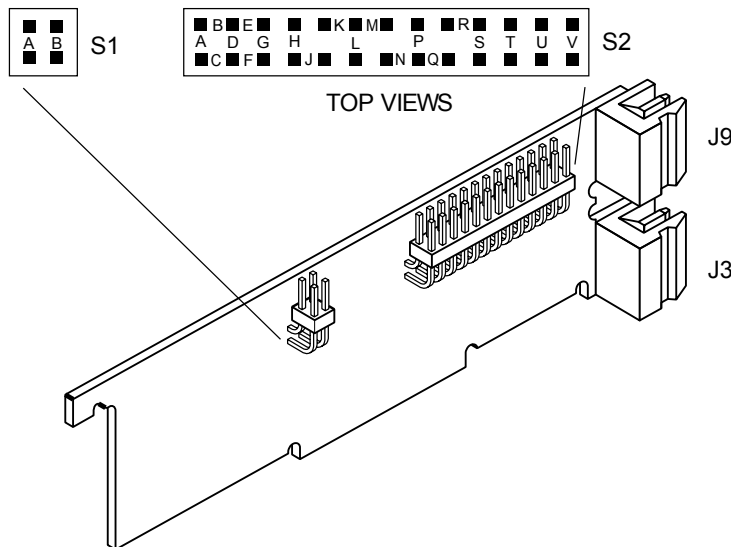
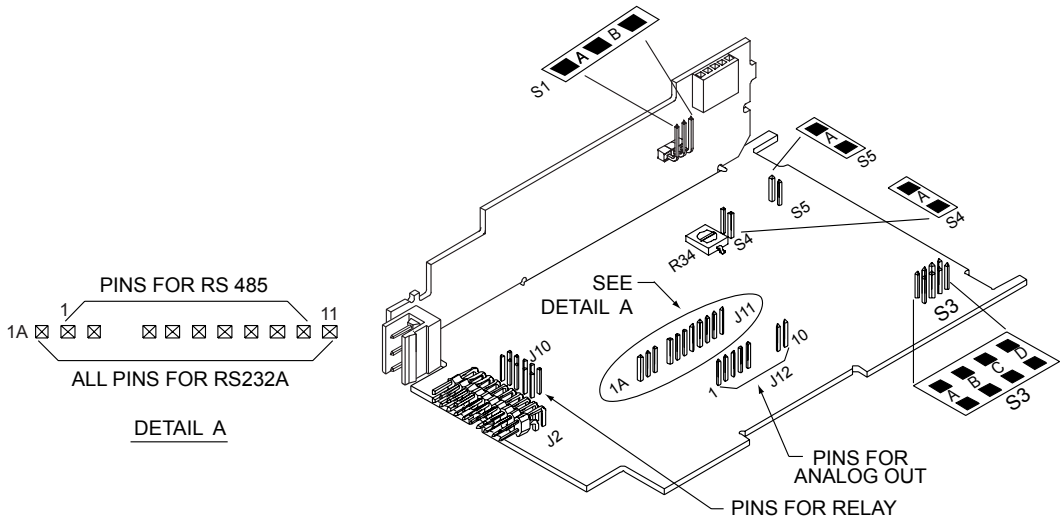

Figure 5-5. Signal Input Board
Figure 5-7. dc-Powered Main Board
Figures 5-5 through 5-13 show the layout of the seven (7) printed circuit boards with respective jumper blocks, where applicable, used in the meter. Figures 5-7 through 5-13 show the optional boards.